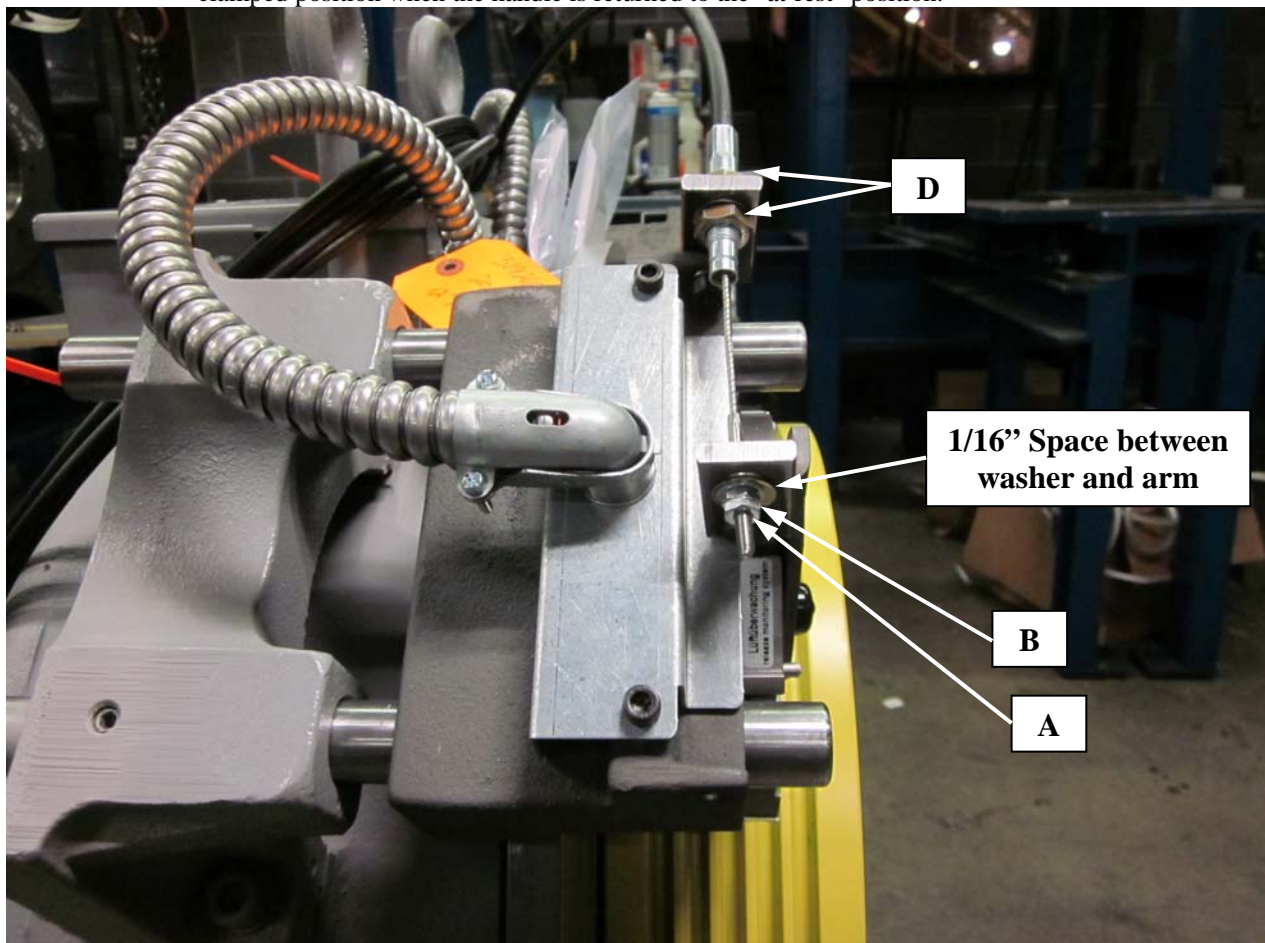

Figure 20
c. **Manual Brake Release Adjustments (if so equipped) - See Figure 20**